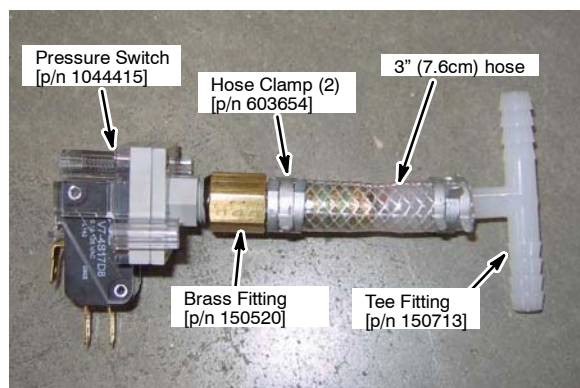

Fig. 20
2. Using the 3 inch (7.6cm) piece of hose, assembly the following parts as shown (Figure 20). Use a thread sealer tape on all fittings.
2. Continue routing the two *ec*-H₂O hoses as shown (Figure 20).